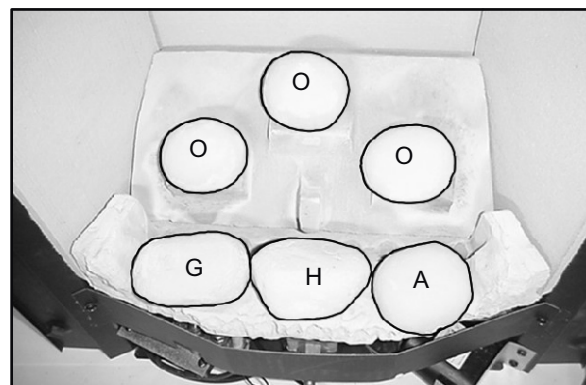

Fig 26a
Arrange pebbles (G), (H), and (A) along the front of the base ceramic matrix as shown in fig 26a.